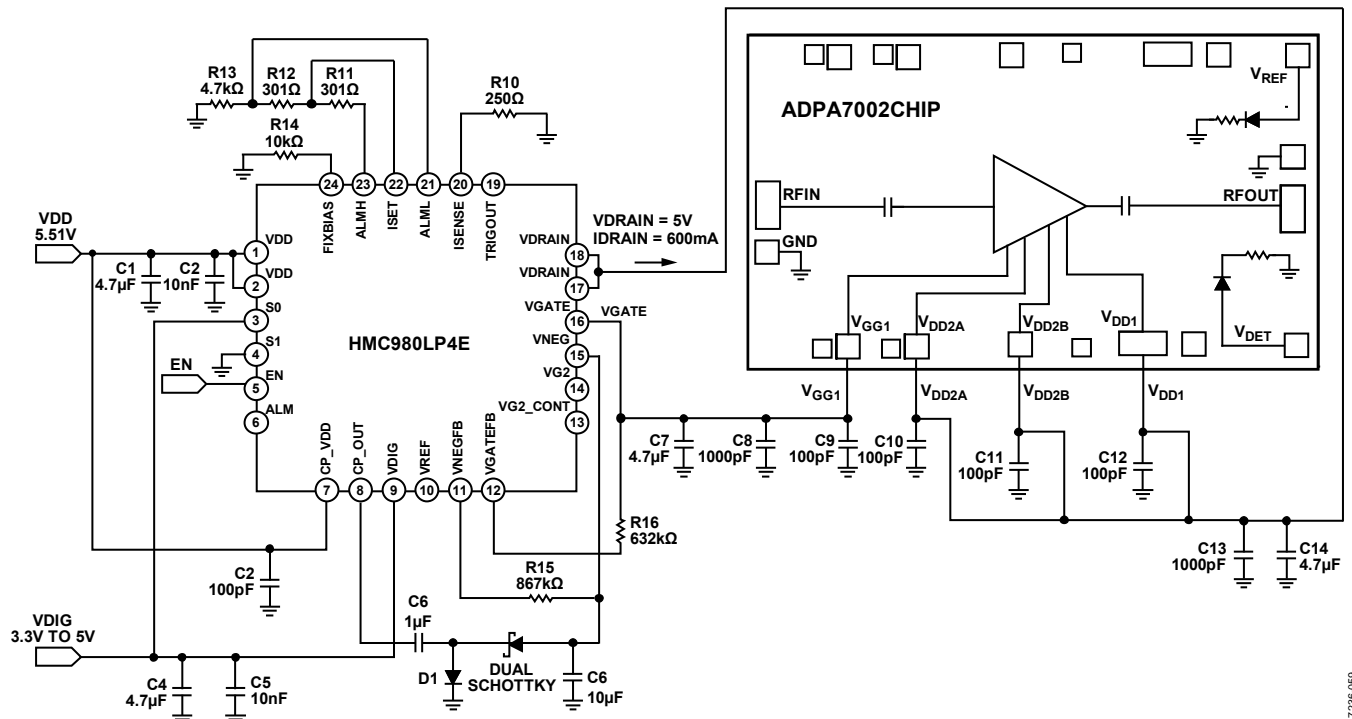
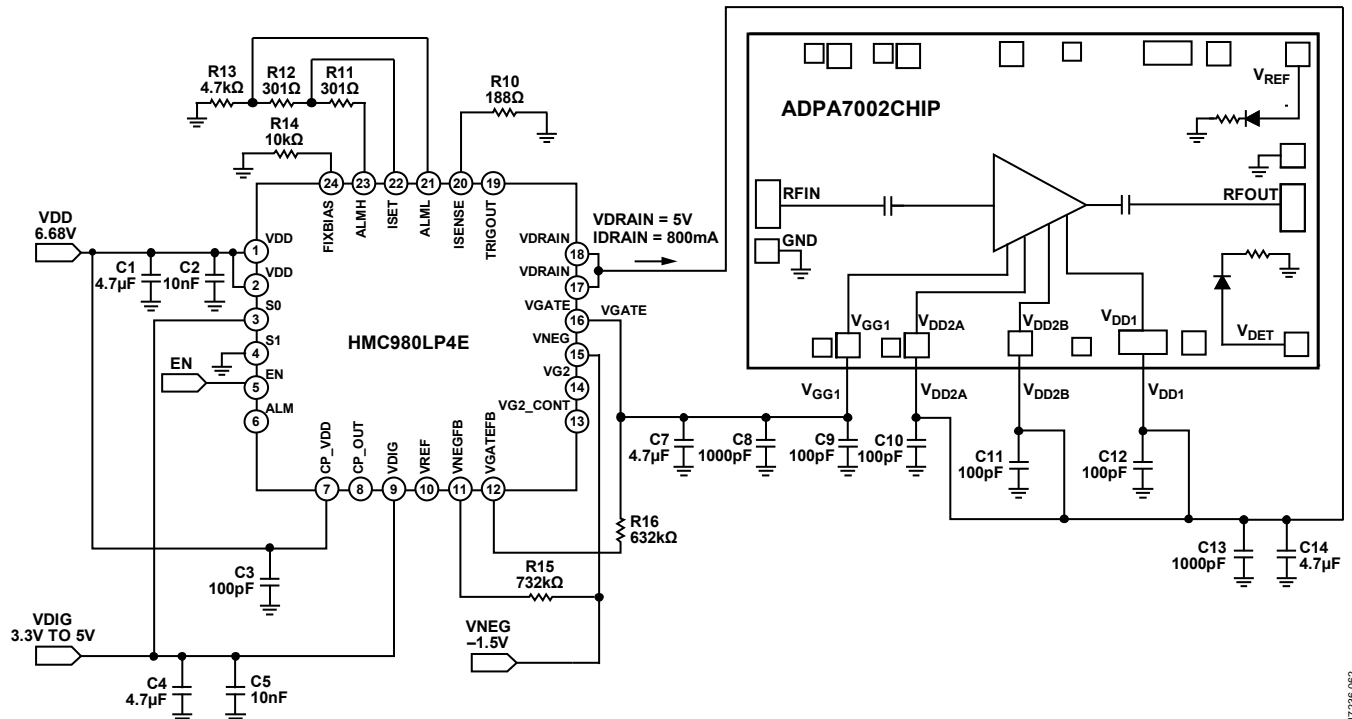

Figure 59. Application Circuit using the HMC980LP4E with the ADPA7002CHIP
Figure 60. Application Circuit using the HMC980LP4E with the ADPA7002CHIP as an External Negative Voltage Source
Figure 59 shows a schematic of an application circuit of the HMC980LP4E used with the ADPA7002CHIP. Refer to Figure 60 for an application circuit diagram if using external negative supply for the VNEG pin.
When using the ADPA7002CHIP with the HMC980LP4E, the minimum voltages for VNEG and VGATE need to be limited to -1.5 V to keep them within the absolute maximum ratings (AMR) limit for the ADPA7002CHIP V_{GGx} pad. This is accomplished by setting the R15 resistor and the R16 resistor to the values shown in Figure 59 and Figure 60. Refer to the AN-1363 application note for more information and calculations for R15 and R16.
1. Set VDIG, the voltage supply input (Pin 9) for the HMC980LP4E digital circuit (see Figure 60) to 3.3 V.
2. Set S0, the digital control pin (Pin 3) that sets the internal field effect transistor (FET) and the internal HMC980LP4E resistor (RDS) resistance (see Figure 60) to 3.3 V.